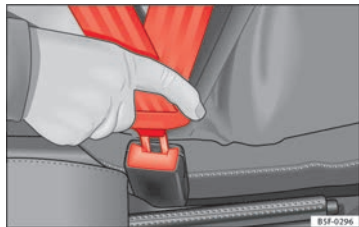

Fig. 12 Belt buckle and latch plate of seat belt.
- Insert the latch plate into the buckle for the appropriate seat and push it down until it is securely locked with an audible click ⇒ Fig. 12.